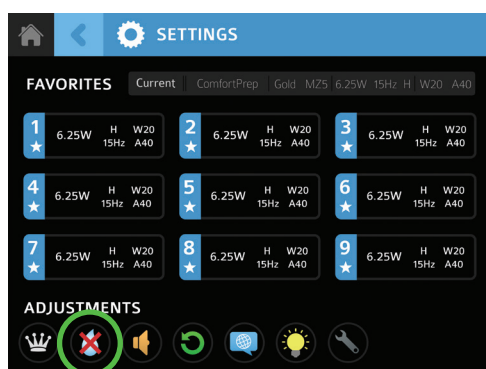

Figure 7B
B. Press the Purge/Prime icon on the Settings screen, then select Prime. Press and hold Prime until the Fiber Optic Cable and Handpiece are primed with water; water will spray from the end of the Handpiece. (Figure 7B)